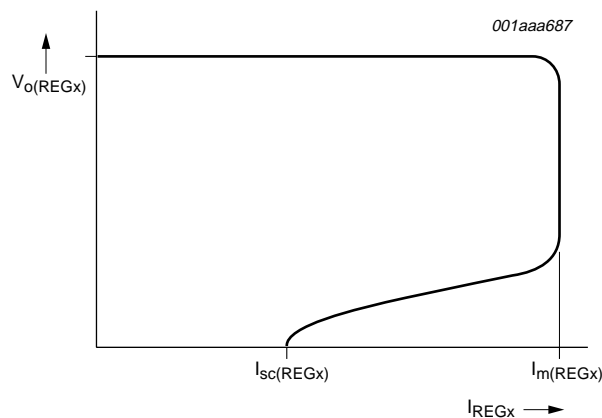

Fig 6. Typical foldback current protection curve for all regulators
- [1] This parameter is only measured in product validation (PV) tests.
- [9] For a typical shape of the foldback current protection; see Figure 6 and Figure 7.